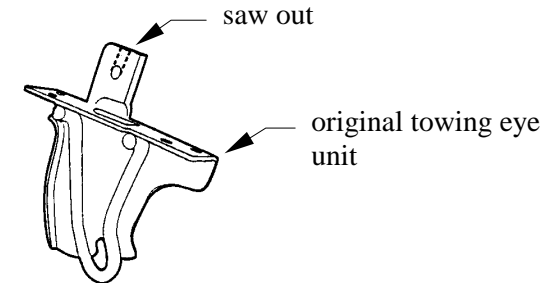

Fig. 2.
2. On the right side of the car remove original towing eye unit and cut him out according to figure 2.